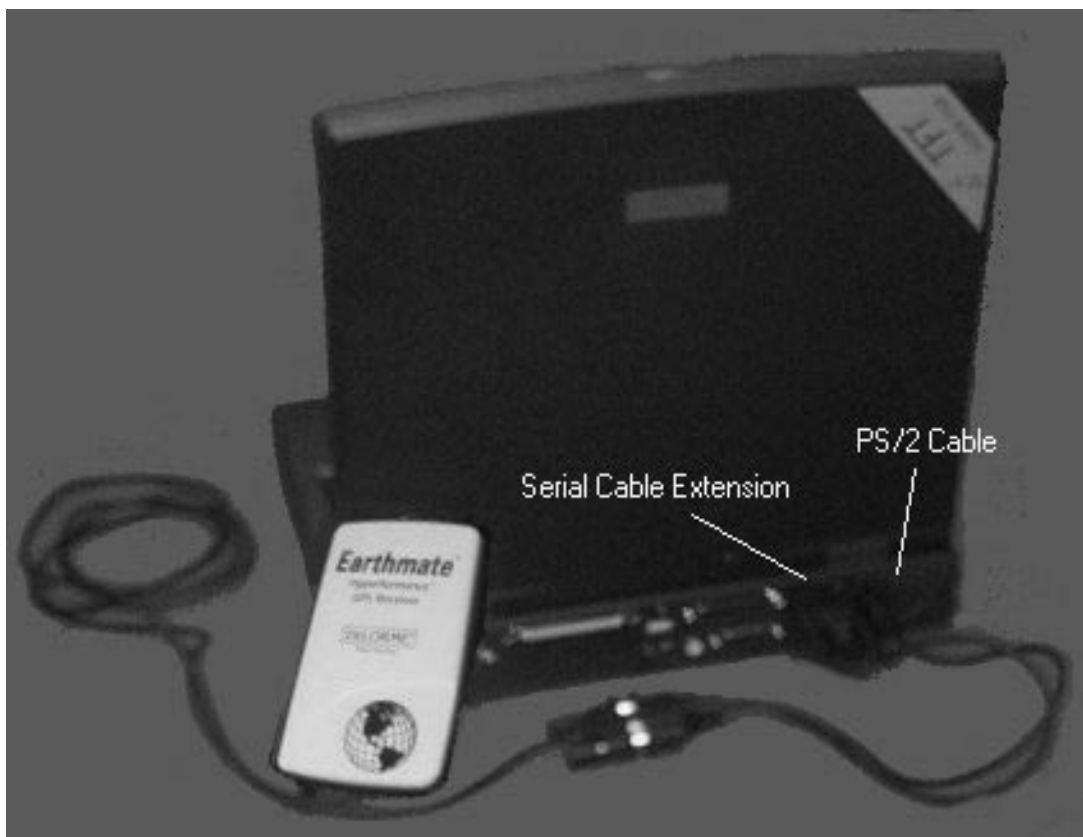

Figure 38 Setting up the GPS while the computer is not docked
- Plug the data cable's data plug into the data jack located at the rear of the Label Writer (as shown in Figure 38).